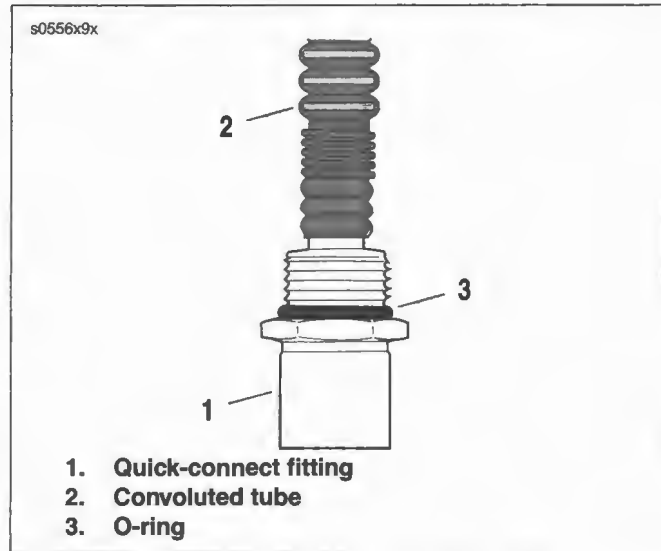

Figure 4-49. Quick-Connect Fitting
2. See Figure 4-49. Pull up on chrome sleeve of quick-connect fitting (1) and pull down on fuel supply line fitting to disconnect.